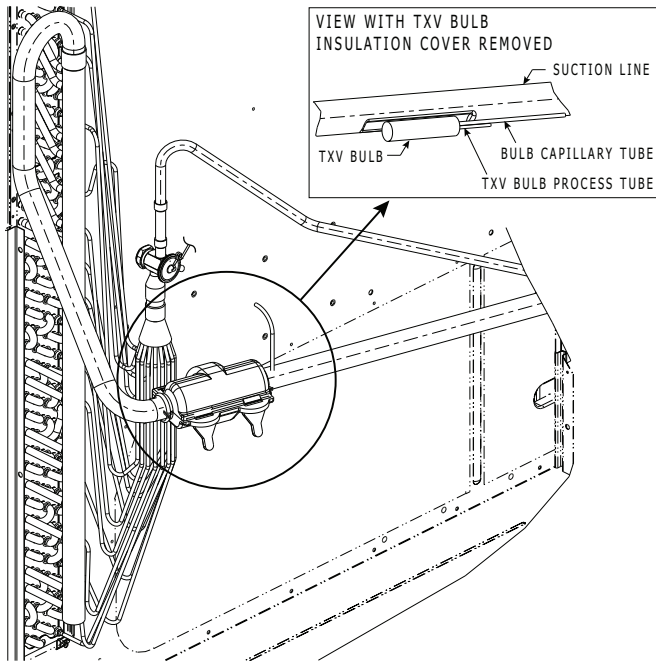

Fig. 23 — TXV Valve and Sensing Bulb Location
10. Attach TXV bulb in the same location where the original (in the sensing bulb indent) was when it was removed, using the supplied bulb clamps. See Fig. 23.